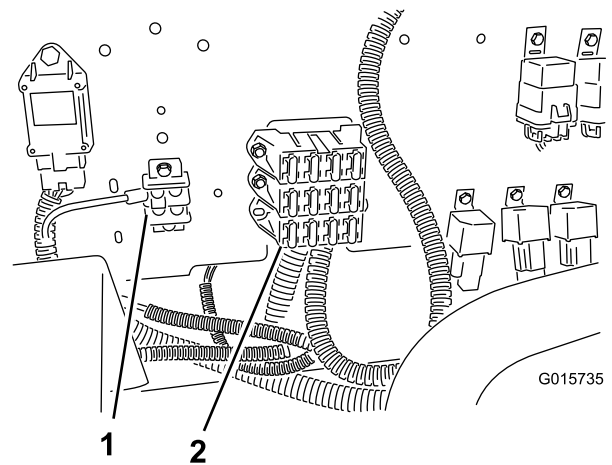

Figure 17
3. Locate the existing fuse blocks on the machine, and install the fuse block connected to the wire harness by securing it to the bottom of the fuse block above it (Figure 17).
4. Secure the ground terminal on the wire harness to the ground terminal block (Figure 17).